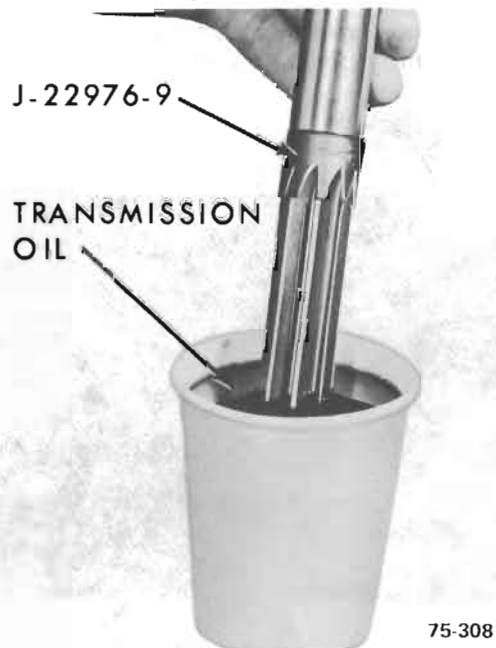

Figure 76-283
- c. *After each 10 revolutions* -remove the reamer and dip it into a cup full of transmission oil. This will clean the chips from the reamer and lubricate it. See Figure 76-283.